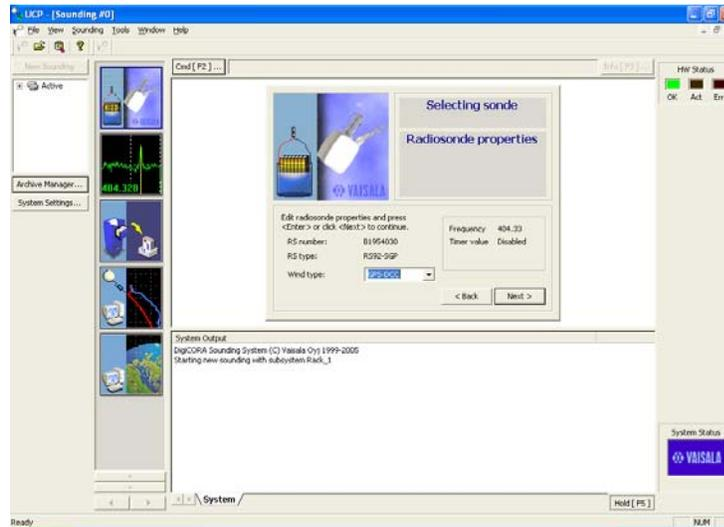

Figure 8a
30. When the coefficients have been read 100%, click on "Next," and you will see the following screen (Figure 8a). Verify the serial number and radiosonde type. Click on "Next."